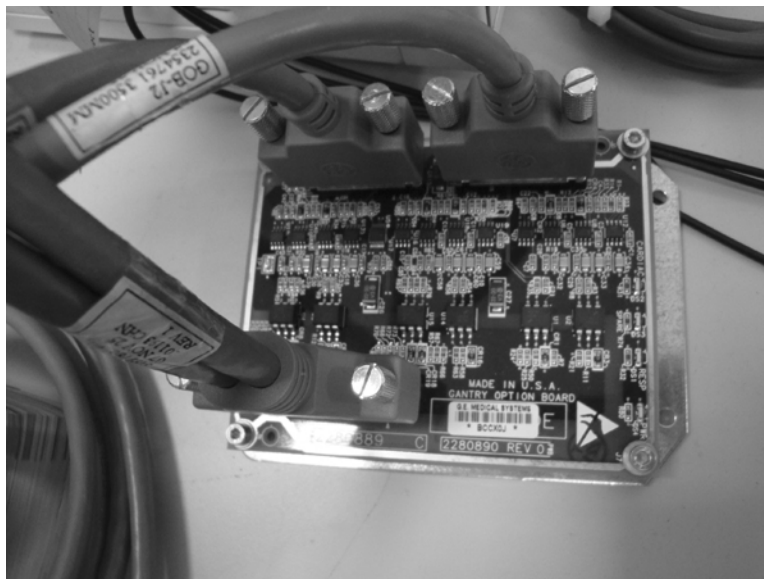

Figure 2-32 Gantry Option Board
- 2.) Install the cables to the gantry power pan. The power pan is located on the rear of the gantry at its base. See Figure 2-23, and Figure 2-32 for connections.
- 3.) Connect this cable to the gantry base cardiac monitor base plate (GOB board). Different plates are included with the cardiac option kit. Follow the installation procedures in the Cardiac Option kit to install the GOB and cables. (see Figure 2-32).